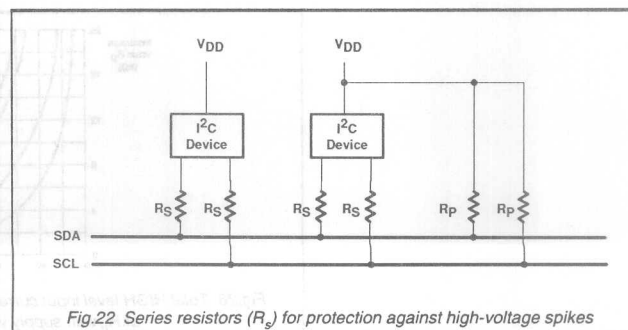

Fig.22 Series resistors (R_s) for protection against high-voltage spikes
- Series resistors (R_S) of e.g. $300\ \Omega$ can be used for protection against high voltage spikes on the SDA and SCL line due to flash-over of a TV picture tube, for example (Fig.22).
In a standard-mode I²C-bus system the values of resistors R_p and R_s in Fig.22 depend on the following parameters: